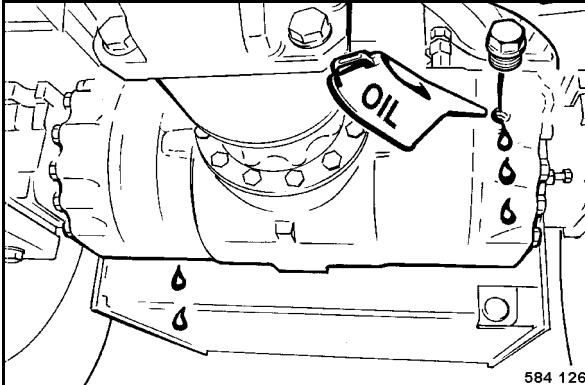

Fig. 165
- Fill in oil through the oil level inspection bores (Fig. 165), until it has reached the bottom edge of the bore.